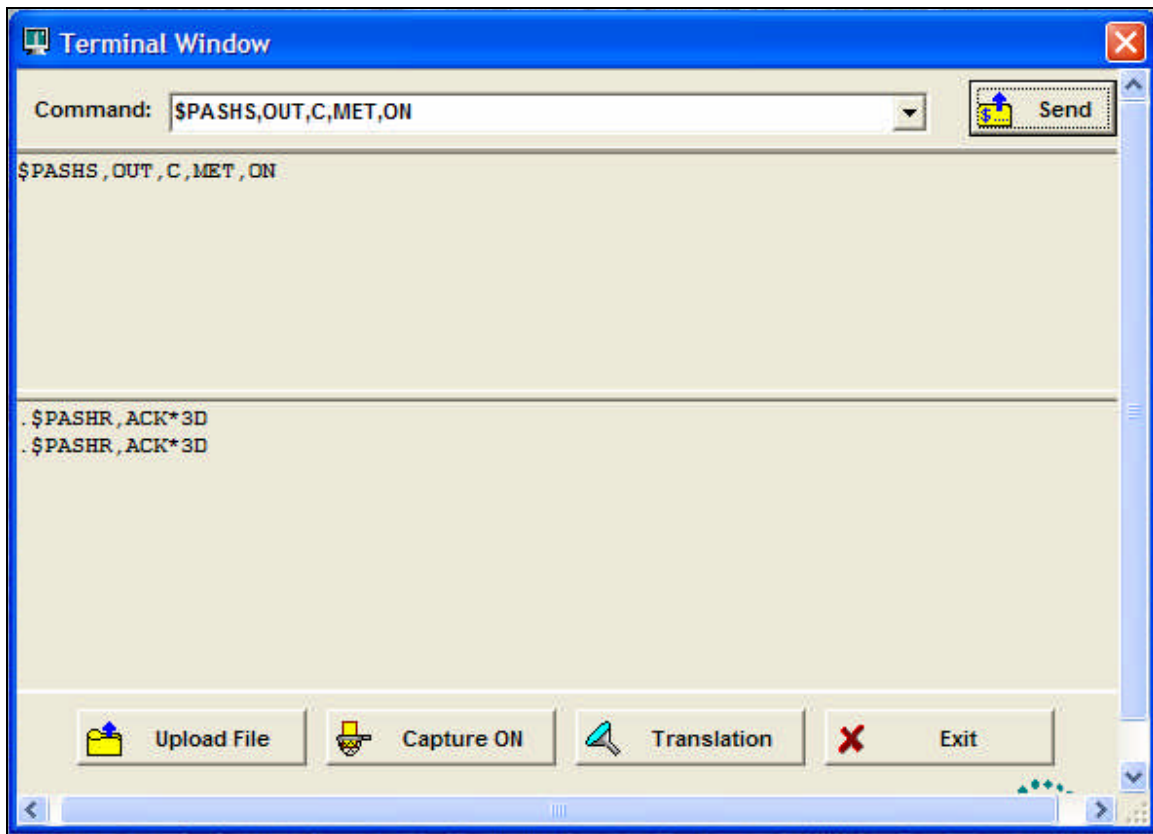

Figure 8. Turn on logging
14. Issue the command `$PASHS,OUT,C,MET,ON` <Enter> to connect the MET station via port C as in Figure 8. The receiver should now start logging MET information in the D-file if data recording is enabled.